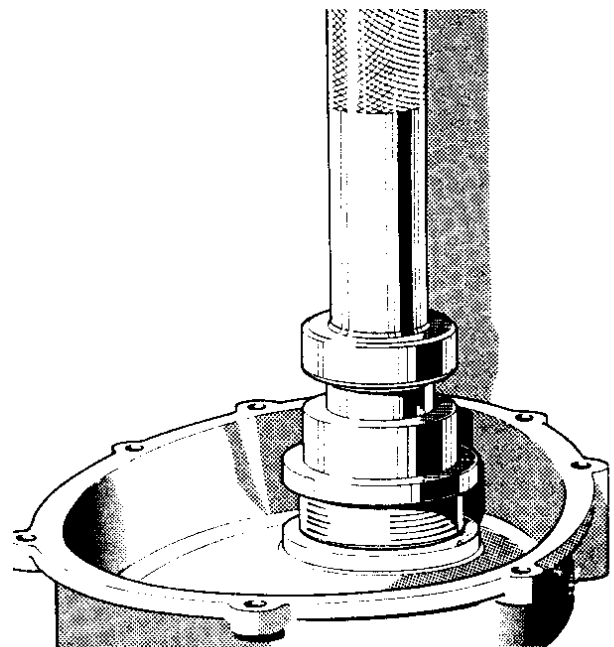

Figure 10 Replacing front cover oil seal
8. Fit new oil seal using special tool no. RT 7480 and drive handle locating as shown in (Figure 10).